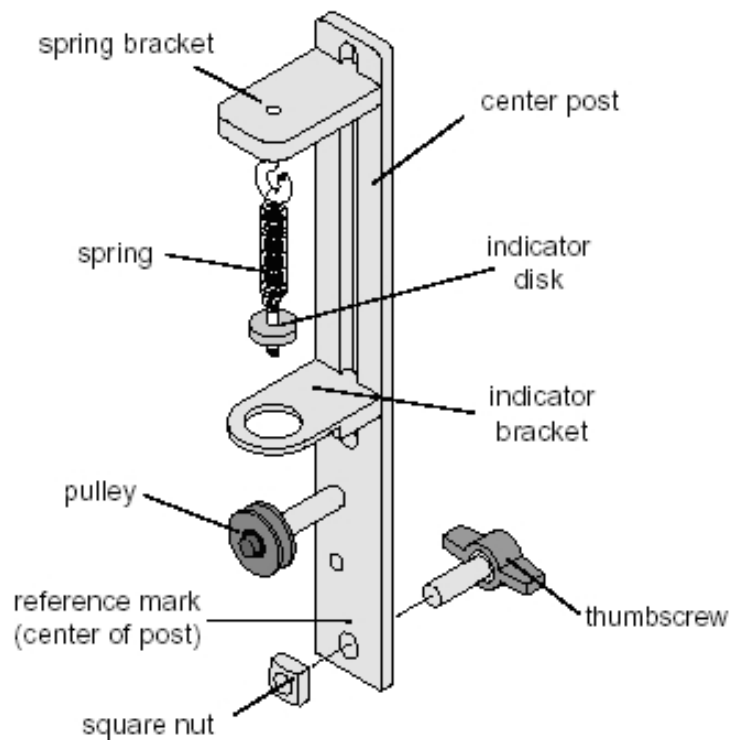

Figure A4: Centre Post Assembly
1. Assemble the center post as shown in the Fig. A4.